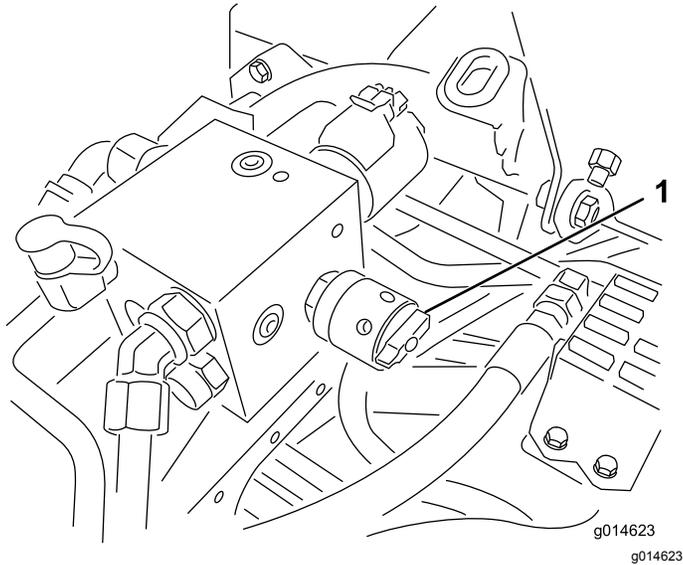

Figure 51
6. Rotate the reel-speed control to setting 1 (Figure 51).